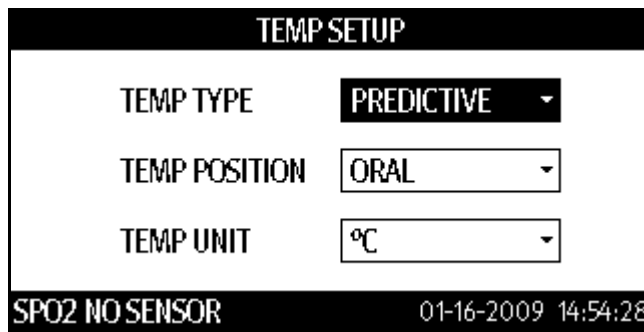

FIGURE 3-19 Example TEMP SETUP dialog
2. Press  (16) or  (19) to highlight TEMP SETUP.
3. Once TEMP SETUP is highlighted, press  (18) to display the TEMP SETUP dialog as shown in FIGURE 3-19.